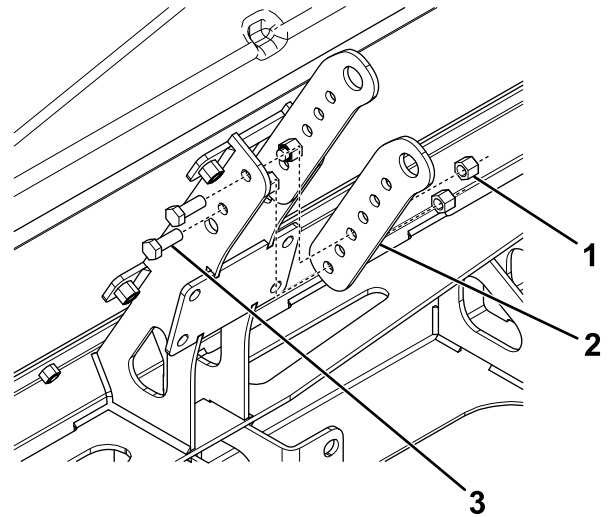

**Figure 12**
2. Position the mast brackets on the spreader so that the distance between the centers of the holes shown in Figure 12 is close to the measurement found in step 1.